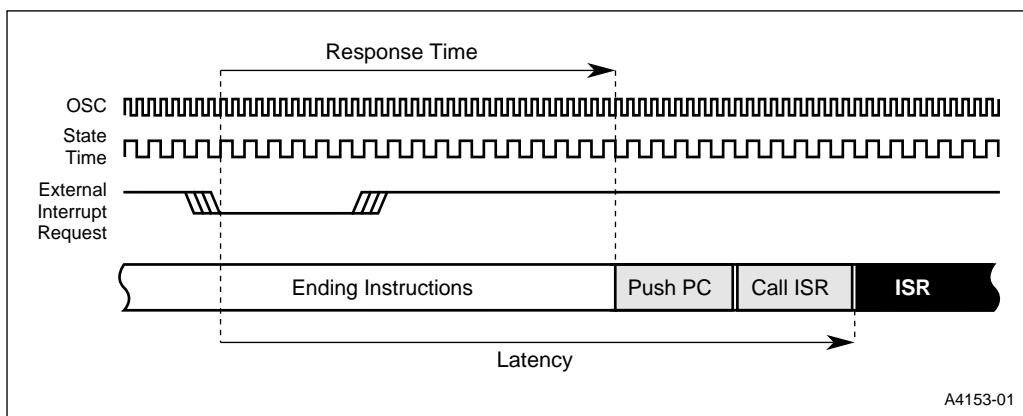

Figure 6-10. The Interrupt Process
Interrupt processing is a dynamic operation that begins when a source requests an interrupt and lasts until the execution of the first instruction in the interrupt service routine (see Figure 6-10). *Response time* is the amount of time between the interrupt request and the resulting break in the current instruction stream. *Latency* is the amount of time between the interrupt request and the execution of the first instruction in the interrupt service routine. These periods are dynamic due to the presence of both fixed-time sequences and several variable conditions. These conditions contribute to total elapsed time.
All interrupts are sampled or polled every four state-times (see Figure 6-10). Two of eight interrupts are latched and polled per state time within any given window of four state-times. One additional state time is required for a context switch request. For code branches to jump locations in the current 64-Kbyte memory region (compatible with MCS 51 microcontrollers), the context switch time is 11 states. Therefore, the minimum fixed poll and request time is 16 states (4 poll states + 1 request state + 11 states for the context switch = 16 state times).
Response time is defined as the start of a dynamic time period when a source requests an interrupt and lasts until a break in the current instruction execution stream occurs (see Figure 6-10). Response time (and therefore latency) is affected by two primary factors: the incidence of the request relative to the four-state-time sample window and the completion time of instructions in the response period (i.e., shorter instructions complete earlier than longer instructions).
When an interrupt vector cycle is initiated, the CPU breaks the instruction stream sequence, resolves all instruction pipeline decisions, and pushes multiple program counter (PC) bytes onto the stack. The CPU then reloads the PC with a start address for the appropriate ISR. The number of bytes pushed to the stack depends upon the INTR bit in the UCONFIG1 (Figure 4-4 on page 4-6) configuration byte. The complete sample, poll, request and context switch vector sequence is illustrated in the interrupt latency timing diagram (Figure 6-10).